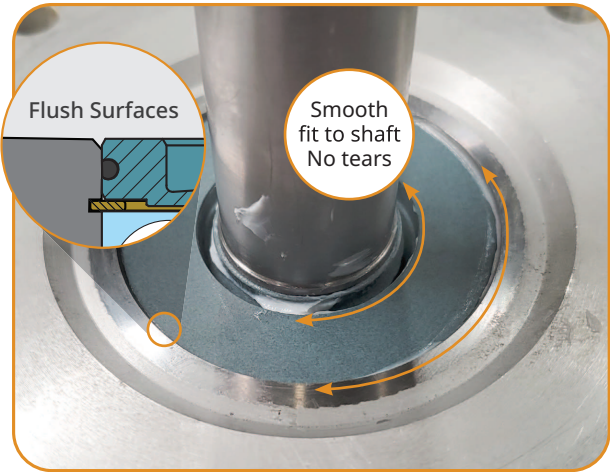

Figure 3-10: Inspect the installation
14. Remove the installation tool from the seal and visually inspect the installation. (Figure 3-10)
The outside diameter of the shaft seal should be flush or sub-flush with the motor pilot height. (Figure 3-10)